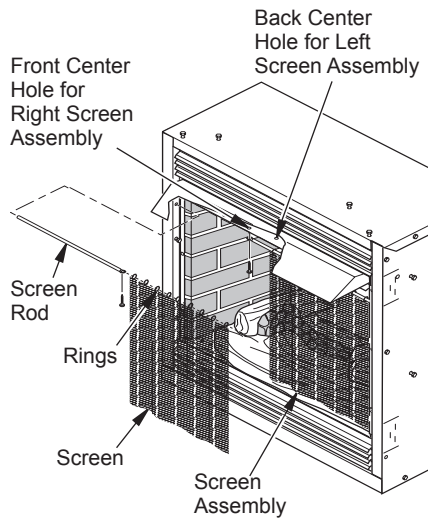

Figure 38 - Installing Screen
5. Insert each rod through ten rings located at top of screen (see Figure 38).
6. Insert first rod into hole in left side of firebox. Fasten rod to rear hole near center of firebox using black Phillips head screw (see Figure 38).